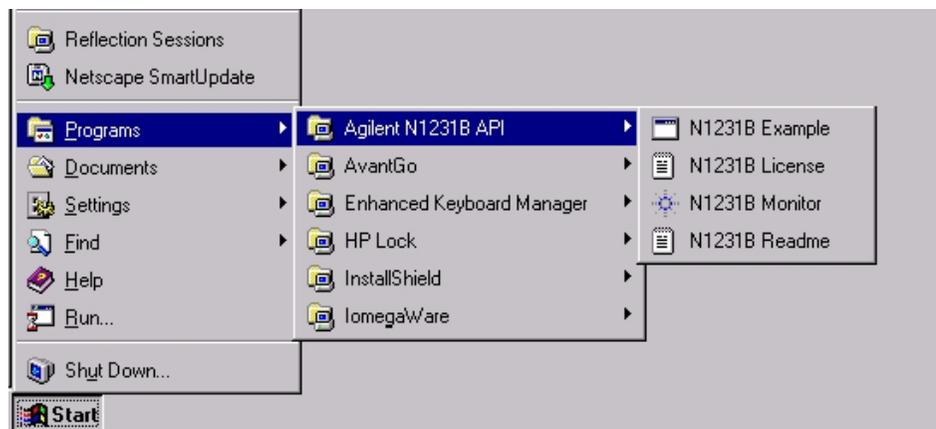

Figure 2 Start/Programs pop-up menu
- 1 Turn on the power to the controller (PC).
- 2 Press the **Start** button, located at the bottom left of the task bar in the Start menu window as shown in Figure 2.
The **Agilent N1231B API** pop-up menu is displayed as shown in Figure 2.